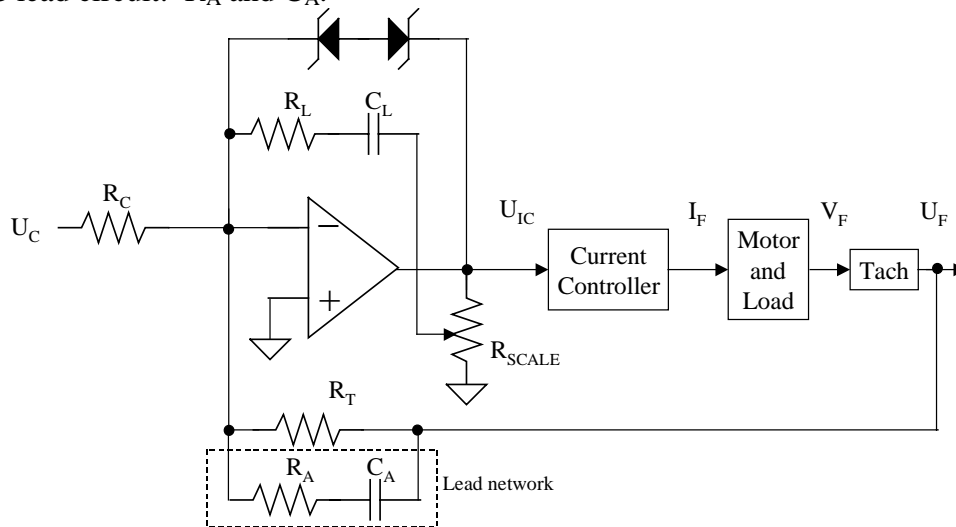

Figure 1. Schematic representation of lead-lag velocity controller
Figure 1 shows the schematic of an analog lead-lag velocity controller; it's equivalent to the proportional-integral (PI) velocity controller from last month with the addition of an R/C lead circuit: R_A and C_A .